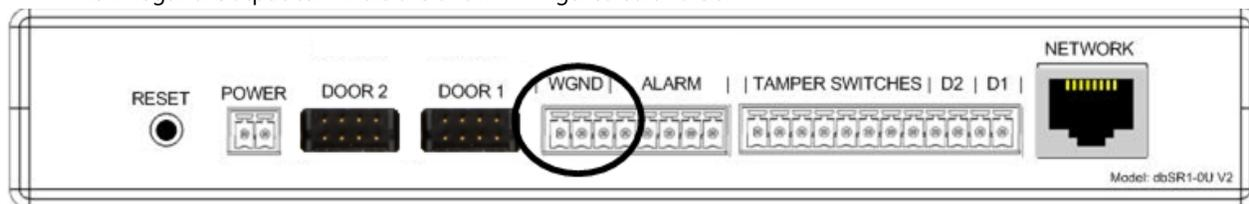

Figure 8a
- The Wiegand Output terminals are shown in Figures 8a and 8b.